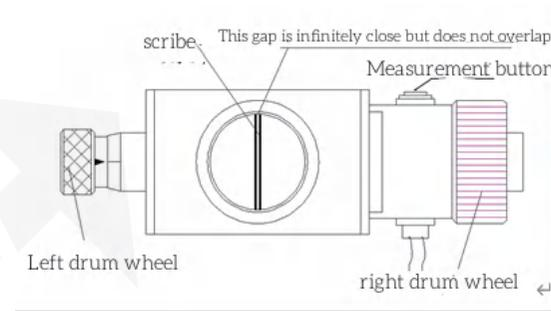

Fig.5.3 Measurement eyepiece
- 7) Add 20 × Or turn the 10X objective lens to the front, and then measure the diagonal length of the indentation in the micrometer eyepiece (6). If the indentation is not clear, slowly raise or lower the test bench to make it clear; If the two lines inside the micrometer eyepiece (6) are blurry, the eye mask on the micrometer eyepiece can be adjusted according to each person's vision.
- 8) Rotate the right drum wheel and move the reticle in the eyepiece, gradually bringing the two reticles closer together. When the inner side of the reticle is infinitely connected Near term (the inner side of the reticle is in a critical state without light gap, but the two reticles must not overlap). See Figure 5.3